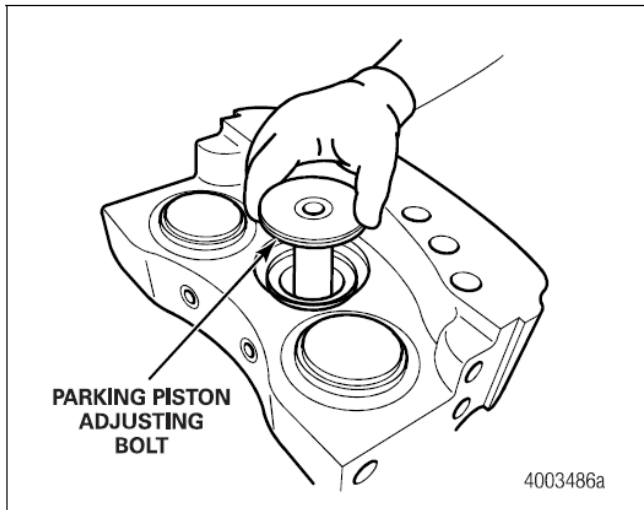

Figure 3.7
- Twist and pull the adjusting bolts from the collars inside the parking pistons of each caliper housing. Figure 3.7